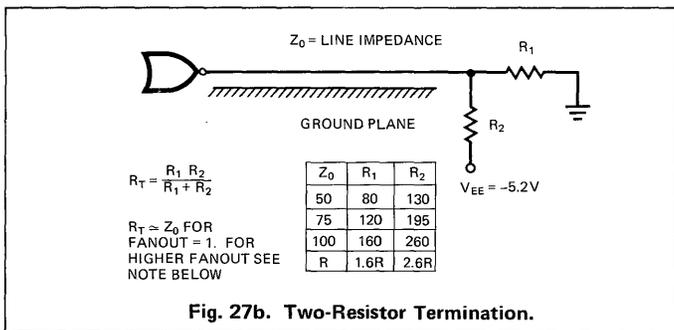
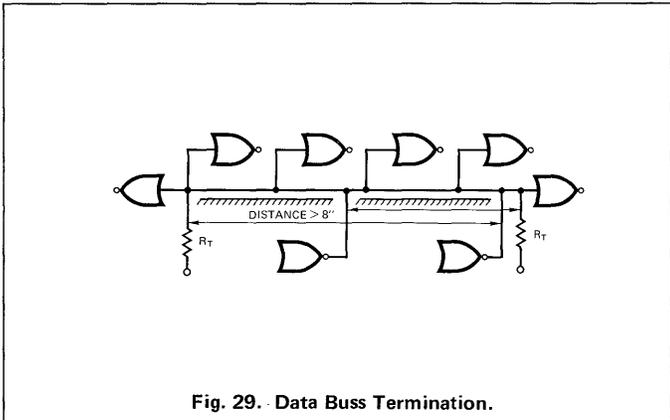

Fig. 27b. Two-Resistor Termination.
Fig. 29. Data Buss Termination.
For distribution of high-speed signals such as clock pulses, where minimum delays are required or where intolerable reflections are incurred in interconnections that are more than 8 inches (5 inches with 95H00), it is desirable to terminate the microstrip line in its equivalent impedance. *Figure 27b* shows the various forms of interconnection that can be used on terminated lines with more than one input. The Data Bus interconnection method should be used for more complicated arrangements where more than one data source is present and large areas of data distribution are required. (Figure 29.)
This avoids bringing $-2V$ onto the board. *NOTE* that as fan-out increases beyond 4 at the end of line, as in *Figure 27b*, the paralleling of the internal 2-kilohm pull-down resistor at each input required that R_2 be increased to maintain correct termination. For example, $FO = 6$, $Z_0 = 100$, then $R_1 = 160$, $R_2 = 1.17$ kilohms.
- (b) If the distance between any of the sources and either end of the line is greater than 8 inches (5 inches with 95H00), the line must be terminated at the more distant end. If both ends are at least 8 inches from any source, both ends must be terminated as shown in Figure 29. For this double termination, the interconnecting line impedance should be as high as is practical (e.g., 100 to 150 ohms), since each source will be driving into an equivalent load of half the line impedance. If a 50-ohm line has a double termination, it is possible to provide increased drive by paralleling two adjacent gates in a single package. Because of current hogging conditions between sources, however, maximum fan-out should be limited to 30 standard gates for single terminations or to 15 for double 50-ohm (i.e., 25-ohm) terminations. Generally, the high input impedance devices should be used for double termination schemes.